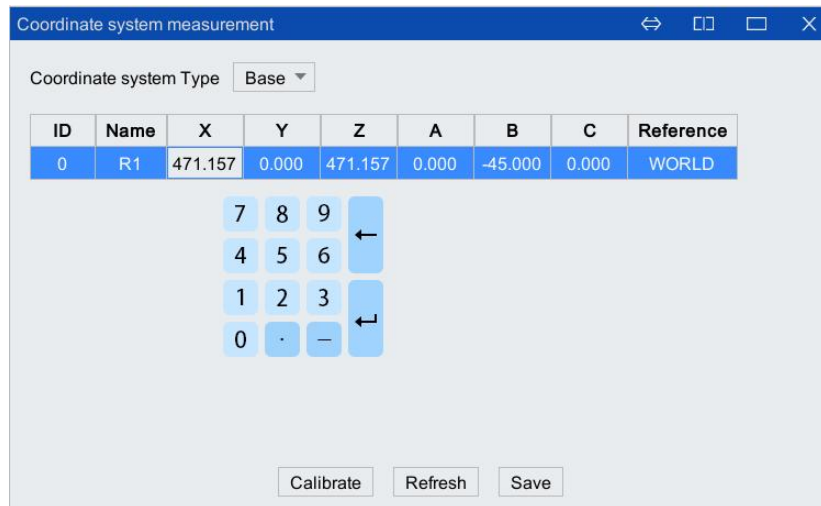

Figure 5-83 Input method setting base coordinate system page
Set the base coordinate system by input, refer to Figure 5-83. The table in the figure shows the position of the origin of each base coordinate system and the posture of the coordinate system.
- Step1.** Select "Base Coordinate System" in [Coordinate System Type] in Figure 5-83 above.
- Step1.** Select "Base Coordinate System" in [Coordinate System Type] in Figure 5-83.